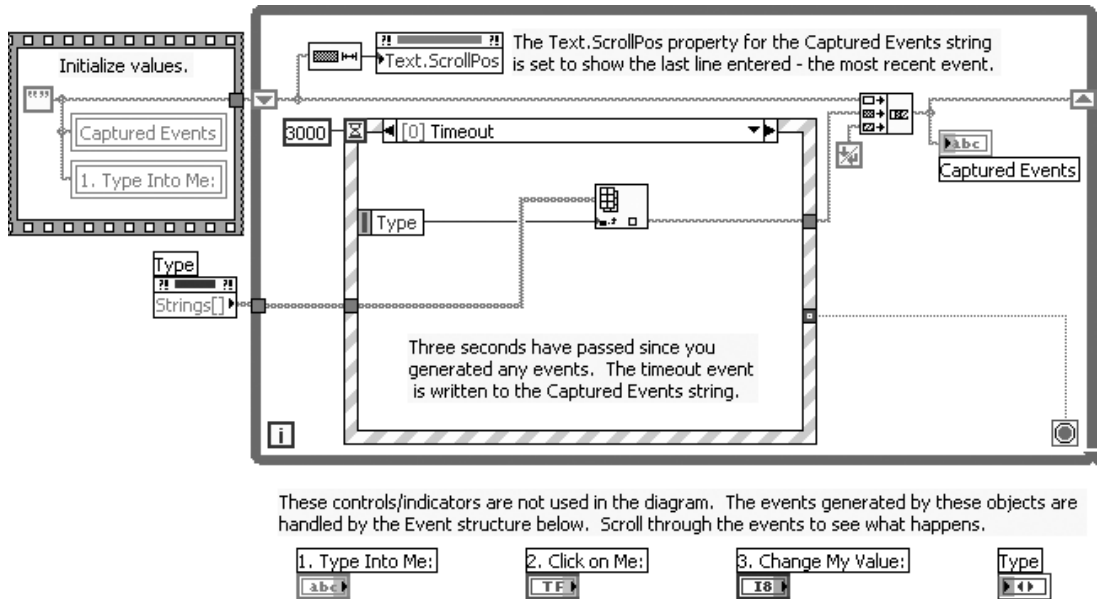

Figure 13.51
5. See if you can trigger each of the eight events from the front panel (see Figure 13.51)!